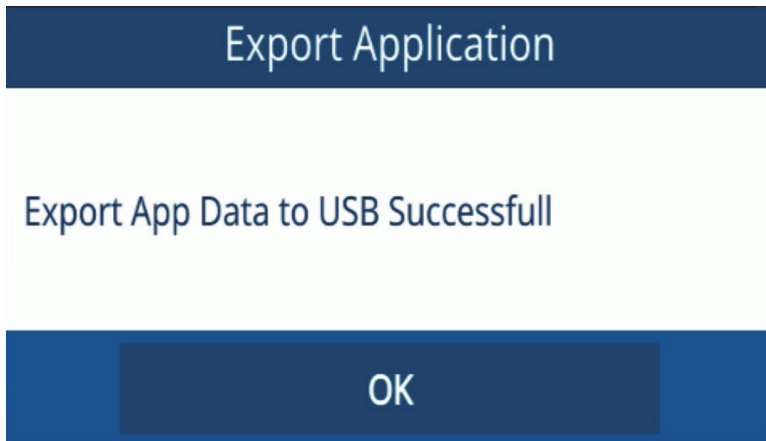

Figure 7-7 Export Confirmation Window
4. Tap **OK** on the export confirmation window (see Figure 7-7 on page 67).